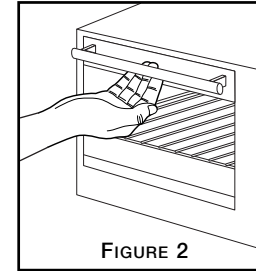

FIGURE 2
Step 1: Grab the center of the handle underhanded with fingertips (See Figure 2).